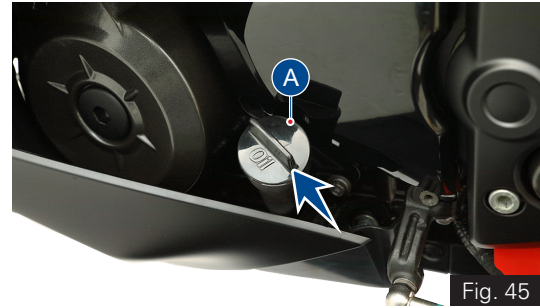
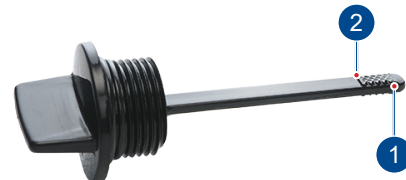

Fig. 45
Fig. 46
To check the engine oil level, a gauge oil level (dip stick) (A) given on the left side of the crankcase (ref. Fig. 45).
- After 2 to 3 minutes, remove the gauge oil level (A) and wipe it cleanly.
- The level should be between minimum (1) and maximum level (2) mark on the gauge (ref. Fig. 46).
- If the level is below the minimum level (1), slowly add recommended engine oil till the level reaches to maximum level (2).